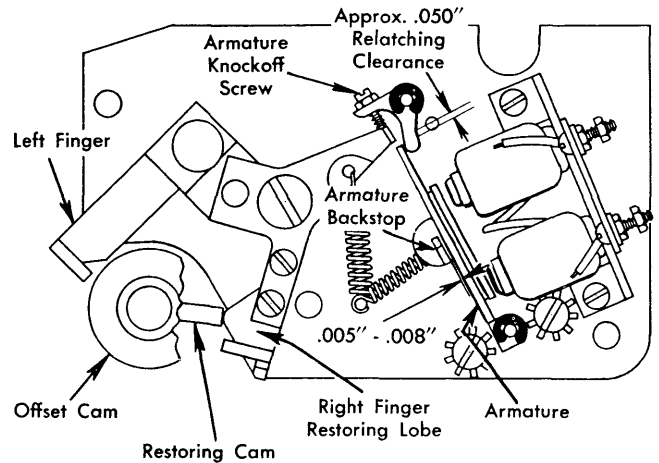

Figure 58. Armature Knockoff Adjustment and Cam Finger Relatching Clearance
**ARMATURE KNOCKOFF AND CAM FINGER RELATCH CLEARANCE (FIGURE 58)**